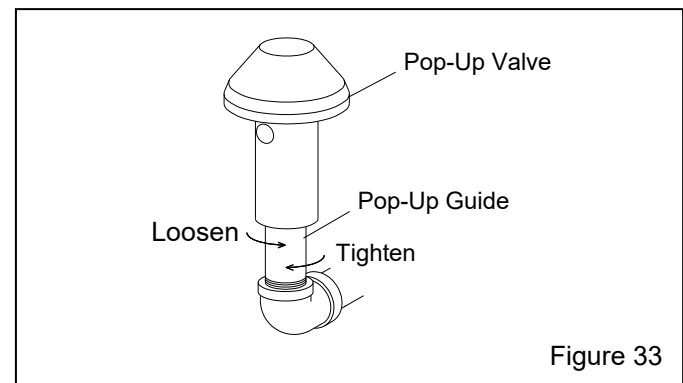

Figure 33
**7.8.5** Use a short pipe wrench to unscrew the pop-up valve guide from the elbow by turning it counterclockwise, as shown in Figure 33. Remove the pop-up valve and guide from the machine.